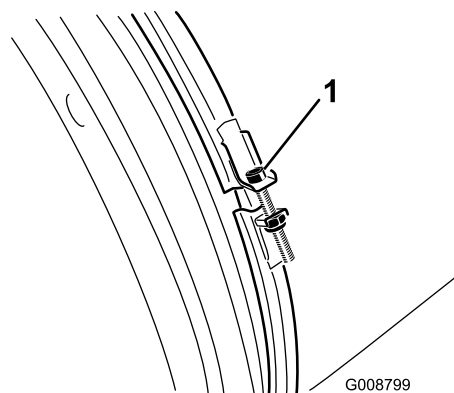

Figure 48
2. Check the blower-nozzle clamp for signs of wear or damage (Figure 48).
3. Check the blower-nozzle clamp daily to ensure that it is tight (Figure 48).